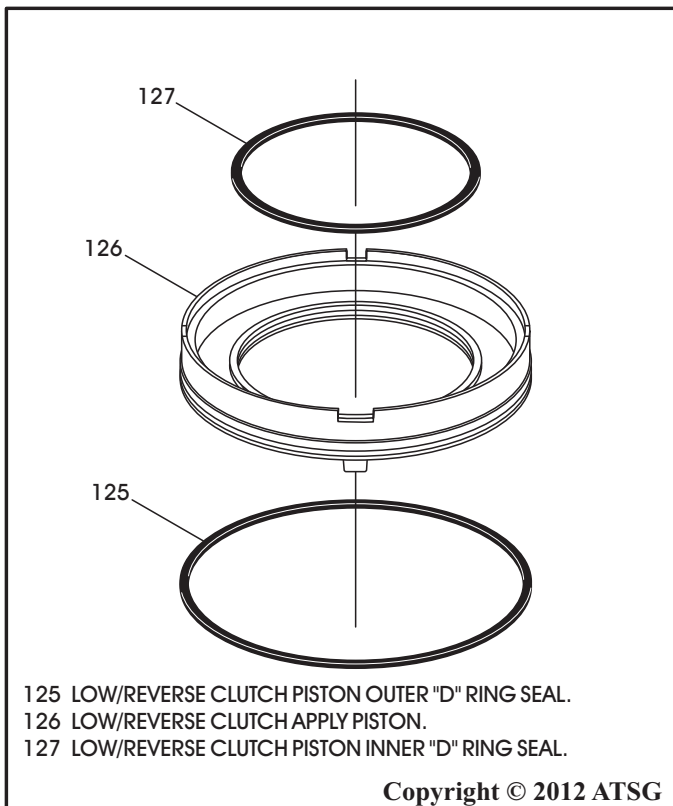

Figure 236
1. Install new inner and outer "D" ring seals onto the low/reverse piston, as shown in Figure 236, and lube with a small amount of Trans-Jel®.